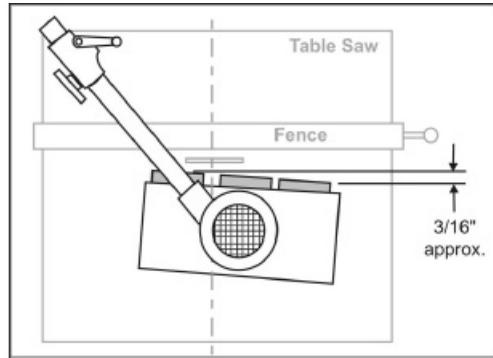

Figure 20
1. Position the 3-roller stock feeder so that the axis of the saw blade lines up between the center roller and outfeed roller. (See Figure 20.) Position the 4-roller stock feeder so that the axis of the saw blade lines up between the center wheels. These positions will allow the Stock Feeder to grip the offcut of the workpiece as it leaves the blade.
2. Rotate the Stock Feeder so that the direction of feed is angled slightly toward the fence by approximately  $3/16"$  (5mm); that is, the outfeed roller should be slightly closer to the fence than the infeed roller. See Figure 20.